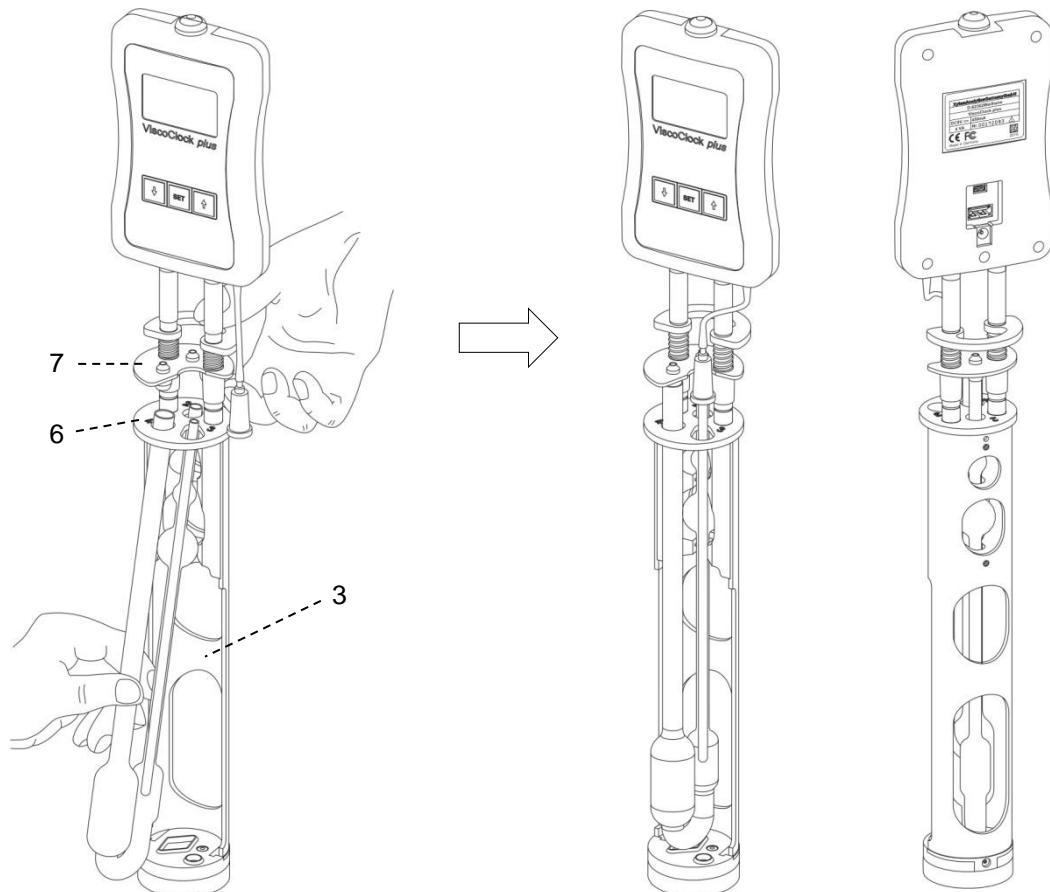

Fig. 3 Inserting the viscometer into the ViscoClock *plus*
Press the guidance plate (7) up against the handle plate (9) (see Fig. 3).
- Insert the viscometer sloped through the guidance plate (6), and then insert it vertically into the centering (2) prism.